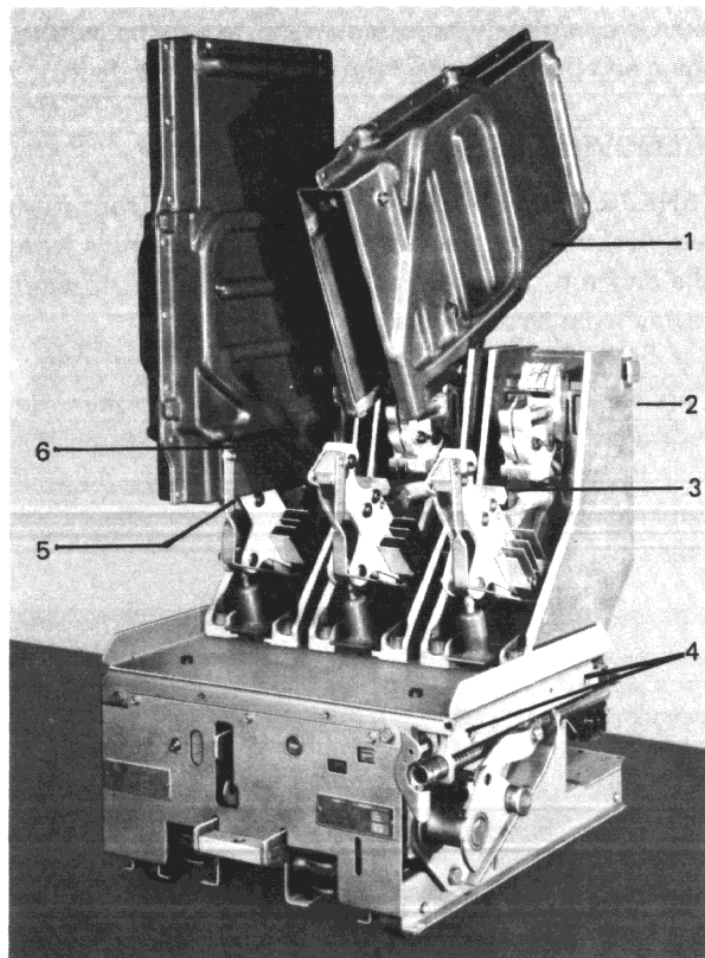
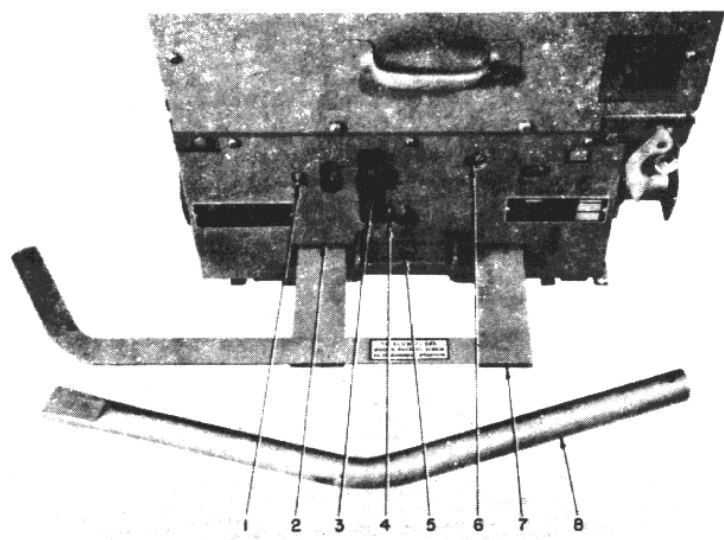

Fig. 1 – View Showing Arc Chute and Contact Structure
Fig. 2 — Front View of Control Panel
PRIOR TO ANY DISASSEMBLY OR INSPECTION OF THE CIRCUIT BREAKER THE CLOSING SPRINGS SHOULD BE DISCHARGED, AND THE BREAKER SHOULD BE OPEN. IF IT IS NECESSARY TO RAISE OR MOVE THE BREAKER, ATTACH THE LIFTING YOKE AT POINTS 4 (FIGURE 1), OR A FIFTH WHEEL AT POINT 5 (FIGURE 2) TO TRANSPORT THE BREAKER AS REQUIRED.
3.4 REMOVING ARC CHUTES (See Figure 1)
3.7 MANUAL SLOW-CLOSE TO CHECK CONTACT PRESSURE (Figure 2)
3.8 INSTALLING ARC CHUTES (See Figure 1)
3. Lift the barrier slightly by its handle at the lower front (Figure 2) to permit the rear brace of the barrier to drop down behind the arc chutes.
3.10 INSTALLING CIRCUIT BREAKER INTO COMPARTMENT (See Figures 2 and 3)
1. Turn motor disconnect switch (if supplied) (1, Figure 2) to "OFF" position.
3. Engage fifth wheel with hole guide (5, Figure 2) and push circuit breaker into compartment until stopped.
6. With the circuit breaker racked to "TEST" position, check for proper operation by operating all possible means of opening and closing. This includes control switches, relays, etc. Turn motor disconnect switch (1, Figure 2) to "ON" position to charge the closing springs, and operate the breaker as required. If motor disconnect switch (1, Figure 2) is not provided, springs will automatically charge when approaching "TEST" position.